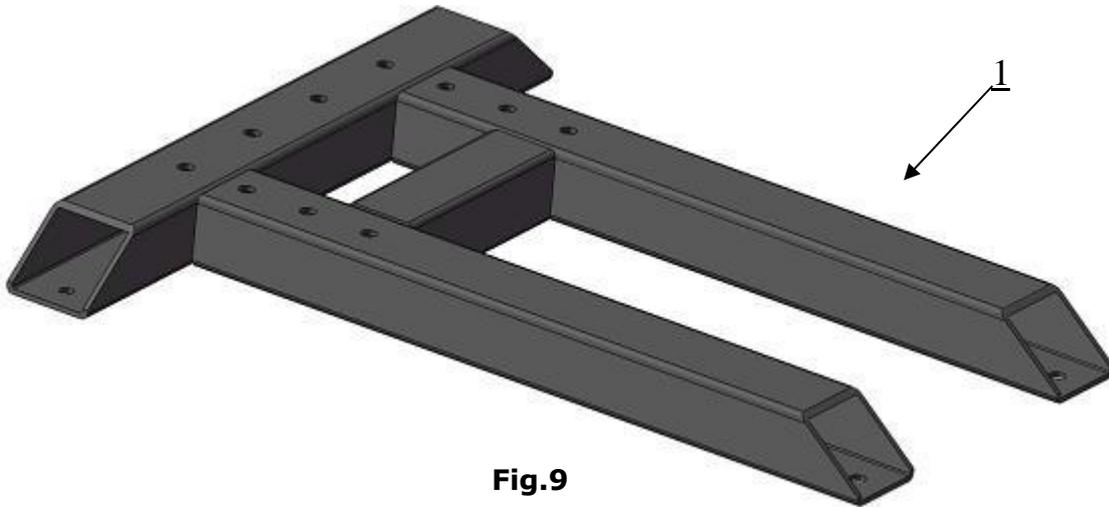

Fig.9
C. Lay the base flat to the ground, confirm installation place according to the ground state, the main purpose is to save space. (See Fig.9)